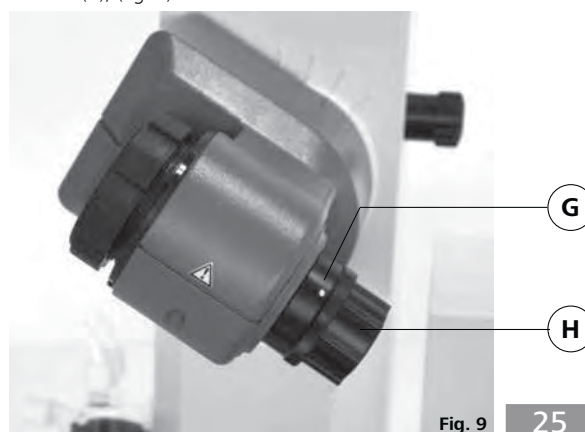

Fig. 9
- ☞ Open the locking device of the steam pipe by turning it 60° counter clockwise (D), (fig. 9).